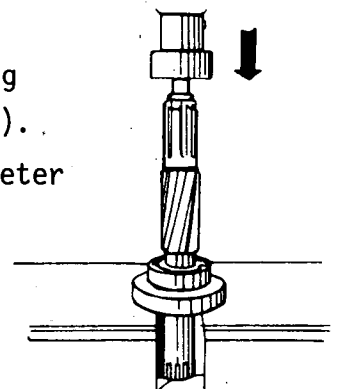

Fig. 1
- a) Replace the bearing on the shaft by using a press until it is secured in place (fig. 1).